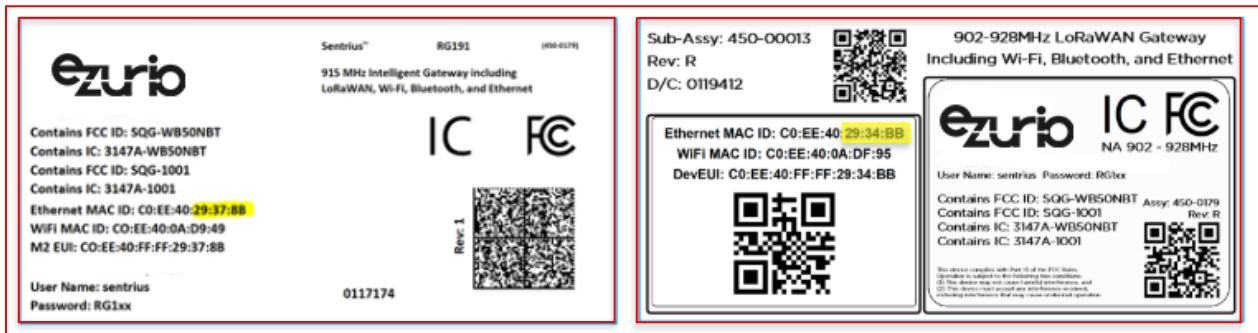

Figure 8: Bottom label (Standard GW – Left, AS923 & AU915 Region Supported/Latest Version – Right) – last three bytes of the Ethernet MAC address highlighted
You can find the Ethernet MAC address and the last six digits of it on the product label on the bottom of your RG1xx gateway (Figure 8). Please note that both SSID and password are in lowercase only. Do not use any uppercase characters. In this example, **rg1xx29378b** is correct whereas **rg1xx29378B** would be incorrect and not work.
1. Determine the last three bytes of your gateway's Ethernet MAC address. This can be found on the label on the bottom of the gateway; the last three bytes are highlighted (Figure 8).